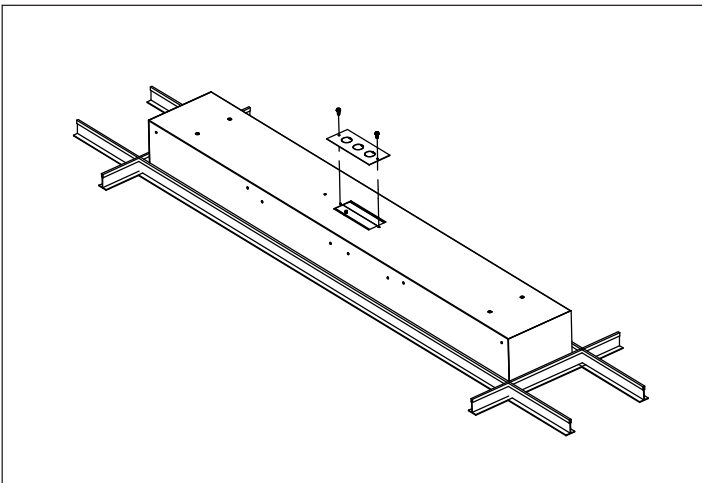

Figure 3
3. Remove Access Cover Panel and make all necessary electrical connections. (Fig. 3)